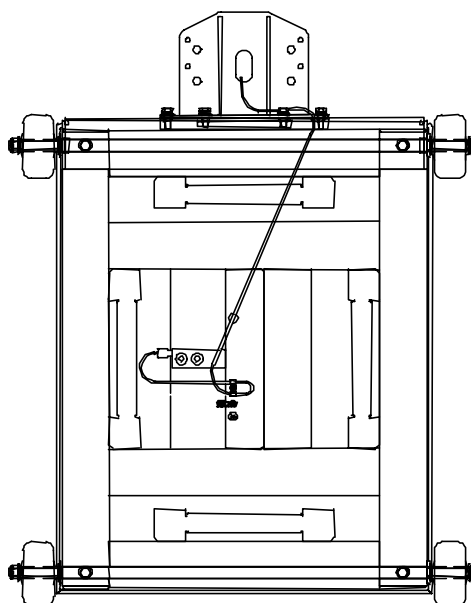

Figure 2-6: Load Cell Cable Routing
9. Thread the load cell cable through the 1/2-inch hole in the rear axle pan. Attach the cable to the pan with a cable clamp and screw (see Figure 2-6).